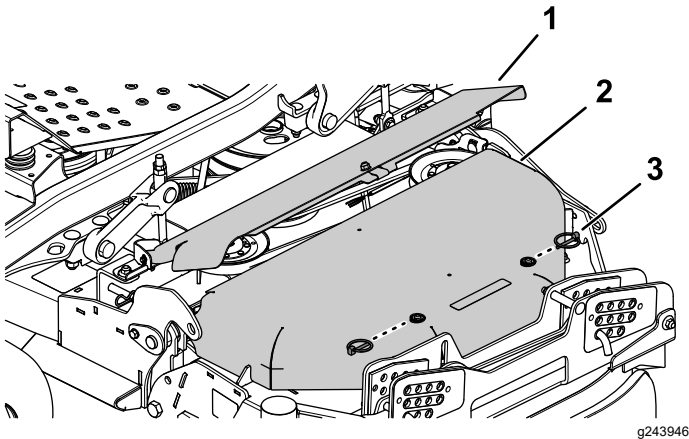

Figure 62
4. Remove the 2 lynch pins from the outer belt cover and remove the outer cover (Figure 62).
5. Rotate the inside belt cover upward (Figure 62).